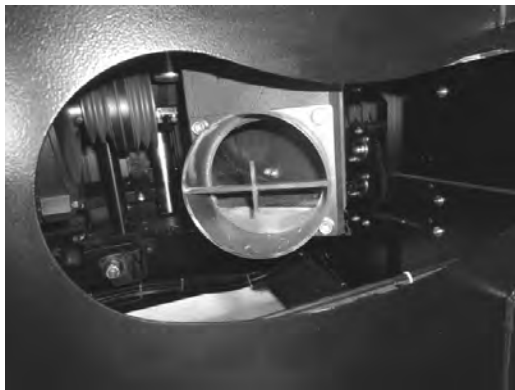

Figure 3-12.1
1. Exhaust pipe (Fig. 3-12.1) diameter 120mm